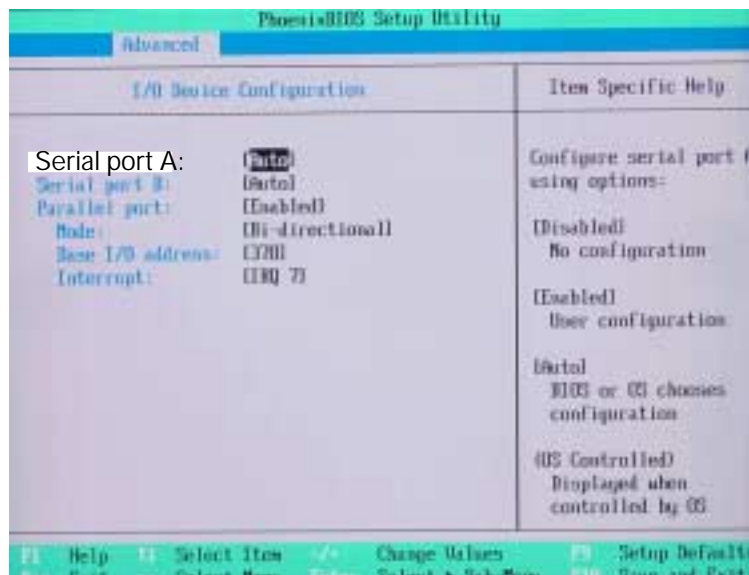

Figure 19-5 I/O Device configuration
15. Verify correct "I/O Device Configuration" settings (see Figure 19-5).